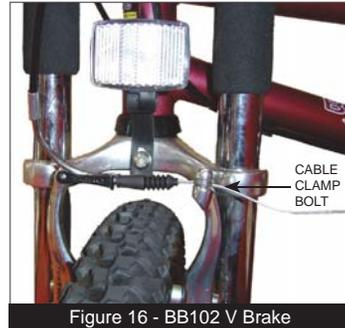
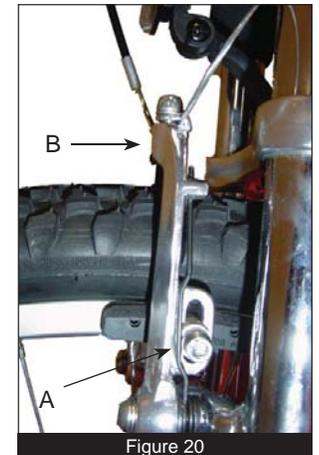

Figure 16 - BB102 V Brake
Figure 20
**Captain V Brakes:** If cable slack can't be removed at brake levers, reverse the adjustments in Step 1 above so the cable is as slack as possible. At captain's brake loosen the cable clamp bolt (Figure 16) with a 5-mm Allen wrench while holding brake shoes against the wheel rim. Pull out cable slack with a pair of pliers. Tighten the cable clamp bolt to a torque of 44—60 inch/pounds. Repeat as necessary.
**Brake Shoe Replacement:** 1) remove old brake shoes with a 5-mm Allen wrench. Brake shoe clamp bolt is shown in the center of the brake arm (A in Figure 20); 2) purchase replacement shoes at a bike store (install all four new shoes for safety); 3) install the new shoes in the brake arms. Before tightening the brake shoe clamp bolt to 50—70 inch/pounds, adjust brake shoes.
**Captain's Brake Shoe Adjustments:** 1) Keep each brake shoe at least 2 mm away from the tire. The brake shoe must not rub on the tire, only on the rim. Make this adjustment by loosening the brake shoe clamp bolt, (A in **Figure 20**) with a 5-mm Allen wrench, move the shoe up or down in the brake arm slot, tighten the clamp bolt to 50—70 inch/pounds of torque. 2) Adjust brake shoes so they are at least 2 mm away from the wheel rim. Make this adjustment by loosening the brake cable clamp bolt (**Figure 16**) with a 5-mm Allen wrench and by moving the brake cable in or out of the cable clamp bolt. Tighten the bolt to 44—60 inch/pounds.
**CAUTION:** The brake spring may also have popped off the brake arm (A in **Figure 20**). If so, replace it behind the tab on the brake arm, as shown in **Figure 20**, where arrow A is the brake spring, arrow B shows the brake arm with brake tab. This caution also applies to the rear wheel.